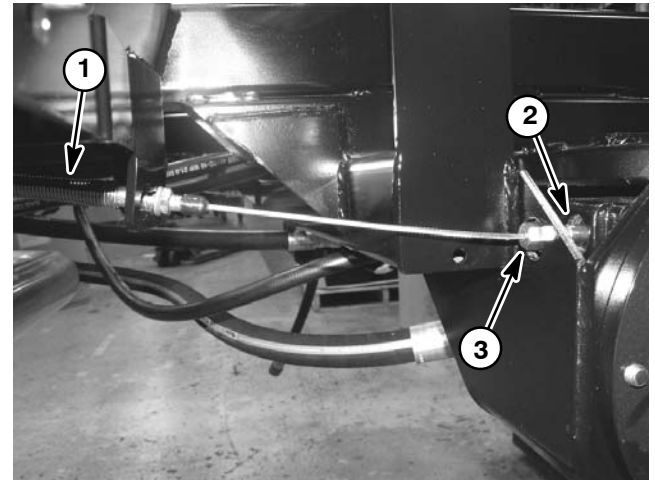

Figure 9
6. Disconnect brake cable from pull rod on brake (Fig. 9).
7. Support brake assembly and remove four (4) flange head screws that secure brake assembly to planetary assembly. Remove brake assembly from machine.
8. Locate and remove splined brake shaft (item 7).
9. Remove and discard gasket (item 4). Make sure that all gasket material and sealant is removed from both the brake and the planetary assembly.
3. Install brake cable to pull rod on brake assembly (Fig. 9). Brake cable end should be completely threaded onto pull rod.
4. Make sure wheel motor O-ring (item 4) is in position and secure wheel motor to planetary with two (2) cap screws and flat washers.